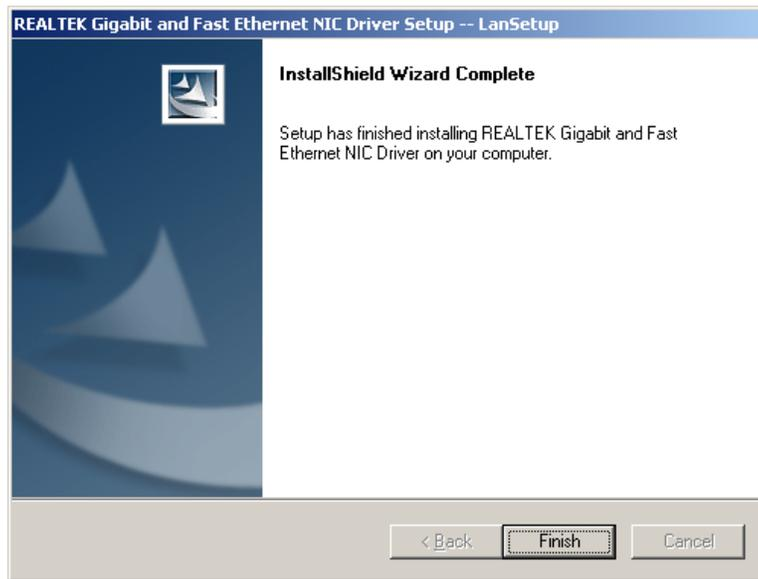

Figure 6-29: Installing Screen
Step 11: Once the installation is complete, the **InstallShield Wizard Complete** screen appears. See **Figure 6-29**.